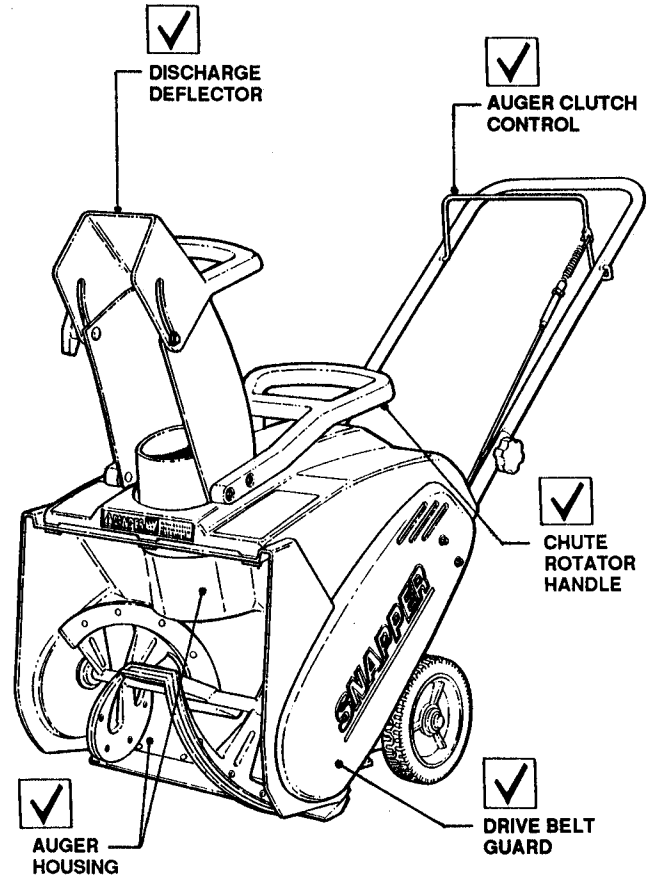

FIGURE 2.1
2.6 PRE-START CHECKS (Refer to Figure 2.1)